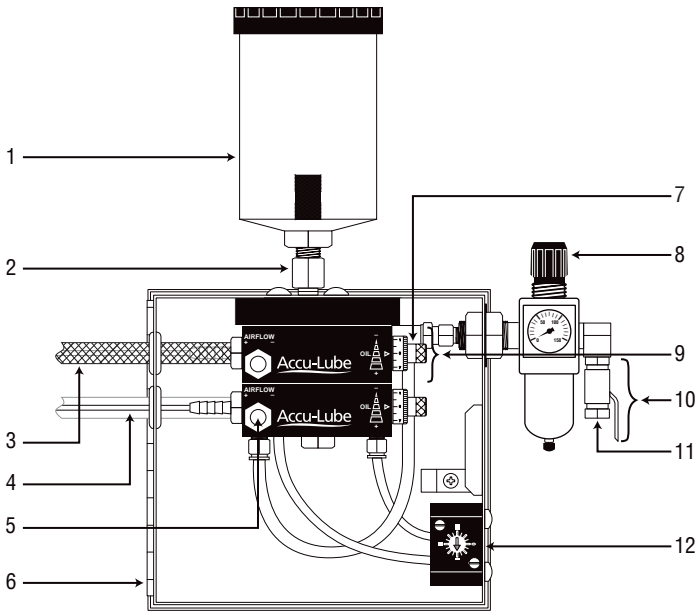

Figure 1. Two Nozzle Aluminum Pump Applicator with Manual Control
1. Remove the plastic shipping plug from the reservoir extension (Fig. 1 #2) on the top of the applicator and clean any debris from the threads and opening.
2. Wrap the threads on the bottom of the reservoir (Fig. 1 #1) with Teflon tape (not included) and attach to the reservoir extension with a $\frac{3}{4}$ " wrench.
3. Fill the reservoir (Fig. 1 #1) with lubricant. Refer to warranty information on page 13.
5. Make sure the applicator is off, then the attach air supply to the air inlet (Fig. 1 #11).
3. Adjust the airflow valve (Fig. 1 #5) on each pump, turn counterclockwise to increase air flow and clockwise to decrease the flow. The airflow should be just high enough to move the lubricant to the cutting edge.
4. Set the frequency generator (Fig. 1 #12), see instructions on page 10.
5. Set the lubricant control (Fig. 1 #7), see instructions on pages 8-9.